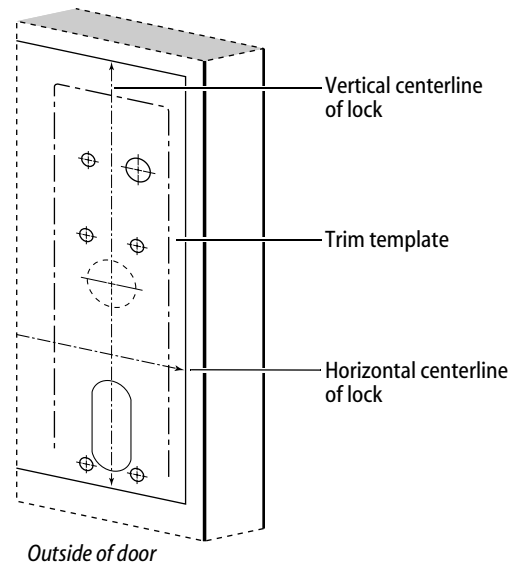

Figure 1 Positioning the B.A.S.I.S. trim template
- b Align the horizontal and vertical arrows marked on the template with the centerlines marked on the door. See Figure 1.
Align the mounting holes for the escutcheon and lock stile case marked on the template with the mounting holes in the door. See Figure 1.